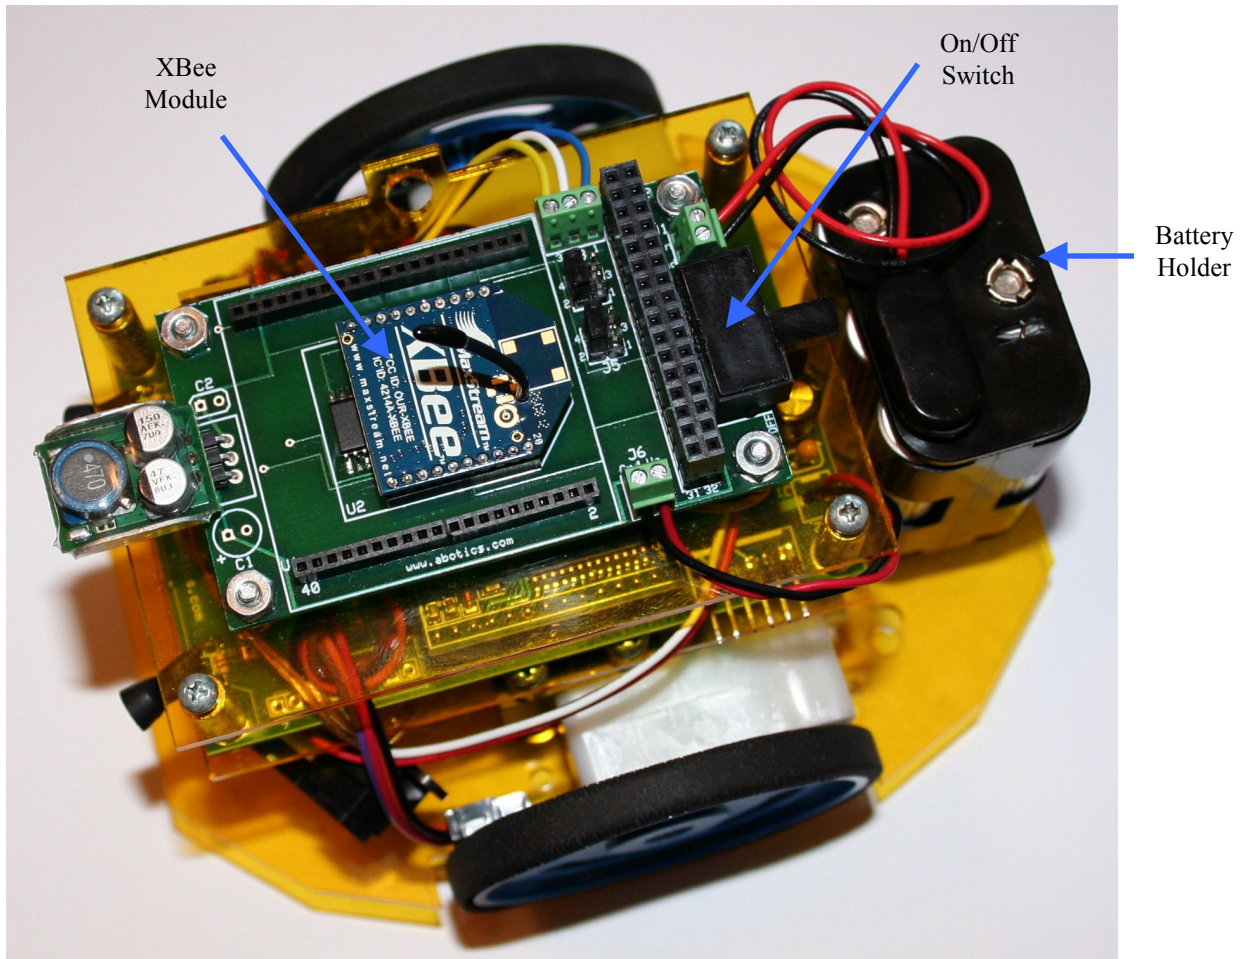

Figure 1. OPEN-ROBOT shown with XBee wireless module.
In figure 1 you can see the robot's on/off switch and the (6)-AA battery holder. Before we get started, remove the battery holder by unsnapping it from the robot's base plate. Firmly hold the robot with one hand while pulling the battery holder. Now load (6)-AA batteries into the holder while observing the proper insertion orientation. The negative (-) end of the each battery must be inserted such that it makes contact with the corresponding spring on the holder. ***Failure to do this will damage the robot's controller board.*** We recommend using 15-minute rechargeable AA-batteries, however, you can use regular alkaline batteries. After inserting the batteries snap the battery holder back onto the robot. You will feel the holder lock into place when you press it onto the robot's base plate.